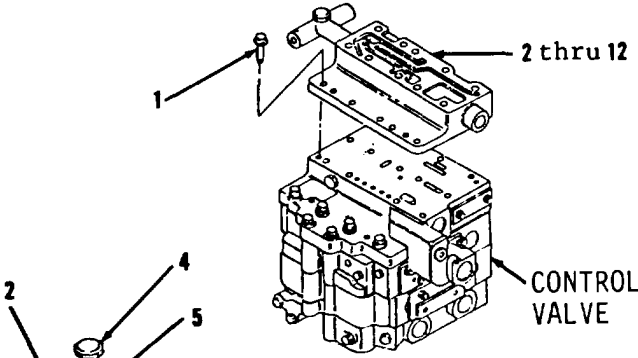

Figure 14-82.
1. Remove four bolts (1) and items 2 thru 12 as an assembly (Figure 14-82) from control valve.